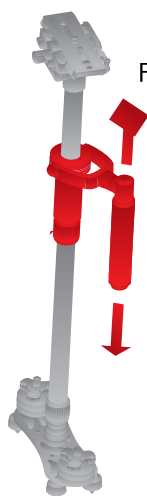

Fig. 5
- Either move the gimbal approximately  $1/2$ " (1.3 cm) toward the camera. (Fig. 5)